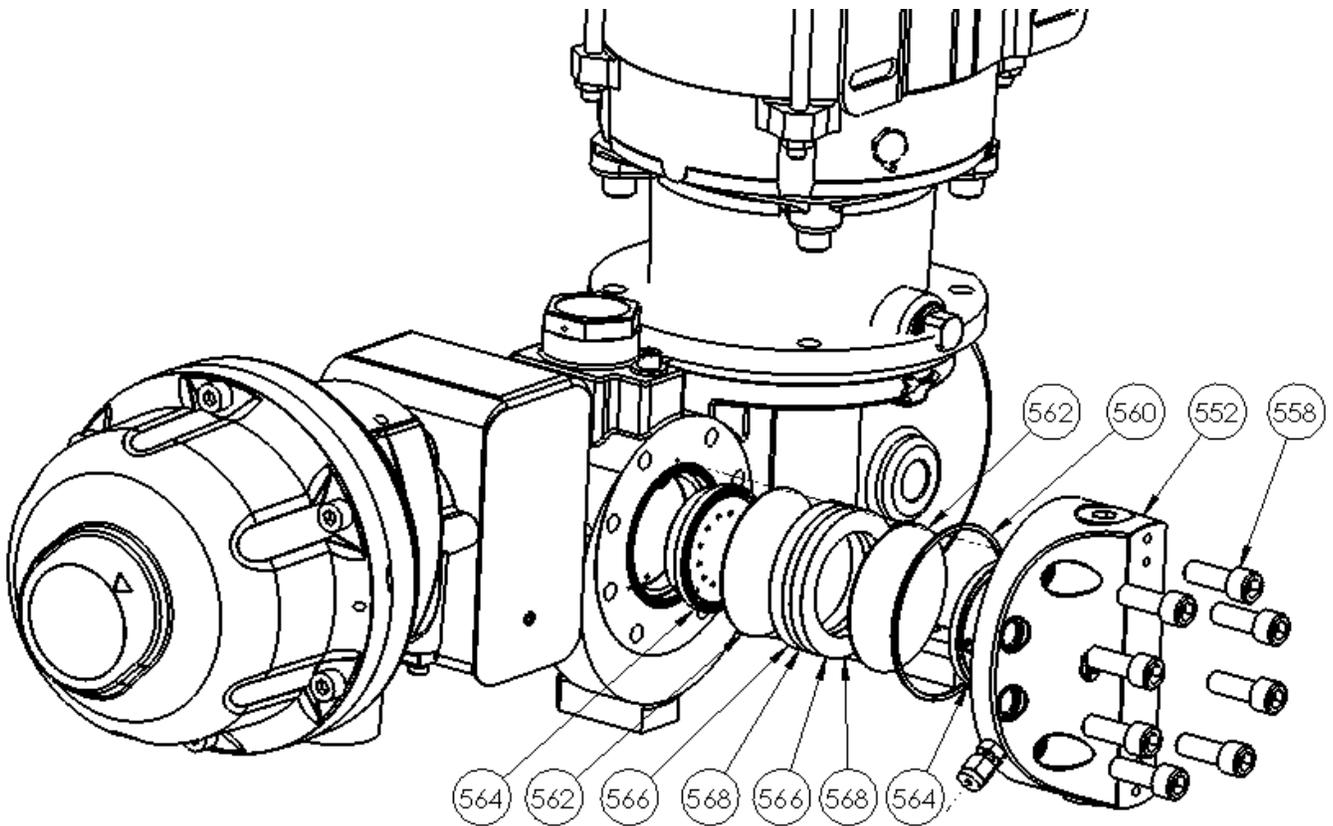

Figure 69 Injection Pump Liquid End Assembly
11. Install diaphragm and shim group behind the retaining tool. Shims should be alternated between the two styles for four shims total. See Figure 69 Injection Pump Liquid End Assembly for reference. Ensure the diaphragms are not scratched or damaged by the exposed locating pins. See Figure 62 Placing Diaphragms and Shims for reference.